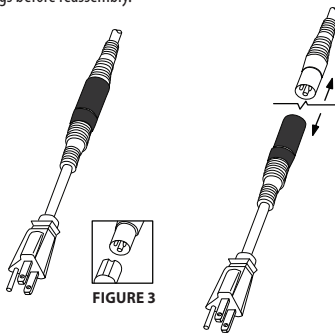

FIGURE 3
6. Insert the power cord plug through the drain hole from the inside of the tank. When using the 99DP, depending on the diameter of the tank drain hole, you may have to separate the cord (see figure 3) and then reassemble it after it has passed through the drain hole. Be sure to align the arrows located on the outer diameter of the male and female plugs before reassembly.
7. For installation through a wide range of drain holes, the power cord of the 99DP can be disconnected as shown in figure 3. Note that there is a rubber sleeve which protects this connection from moisture. This sleeve should fit tightly over this connection. **This connection is water resistant, NOT water-proof.** This connection should never be placed directly in water as electrical shock will occur! This could result in death or injury.